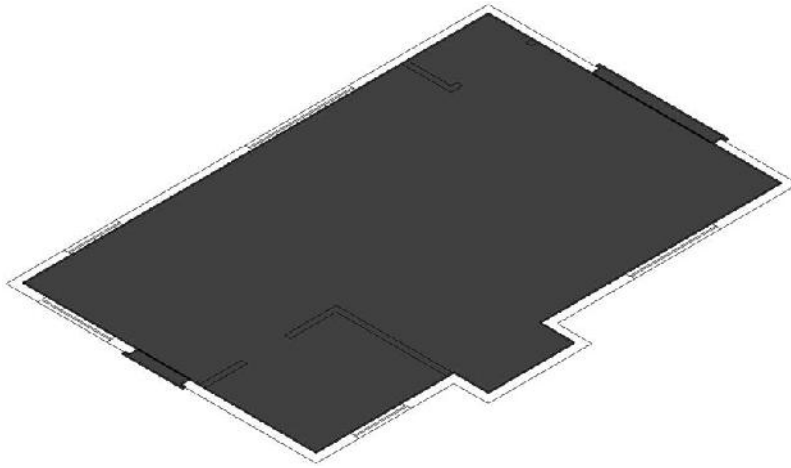

FIGURE 16.26: The 3D floor with the thresholds
To see where you're going, look ahead to Figure 16.26. You'll use the **EXTRUDE** command to create a series of solids that represent the thresholds and boxes for the steps and the floor.
10. Start the EXTRUDE command, select the floor polyline, and then extrude it 1" (25 mm), as shown in Figure 16.26.